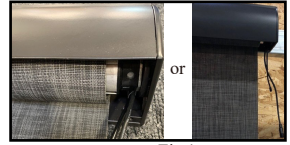

Fig 1
- Your shade has an antenna (Fig 1) that allows the Remote to communicate with the motor. Please do not cut the antenna.